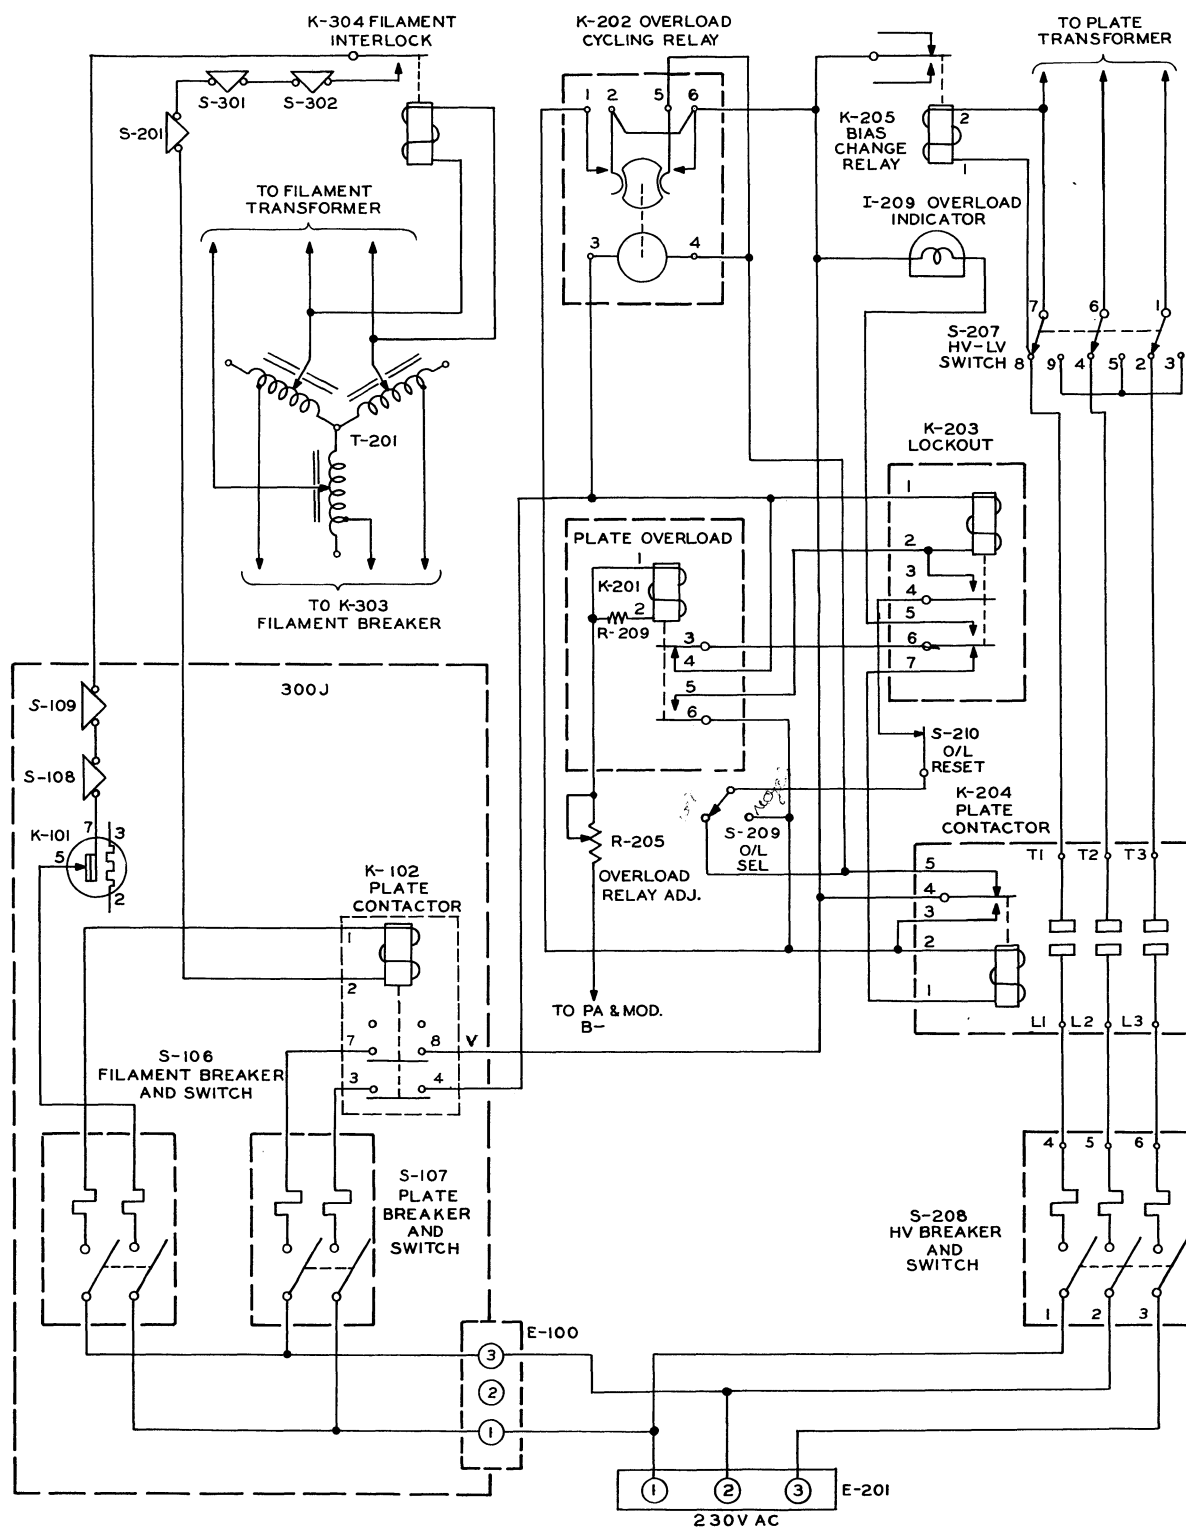
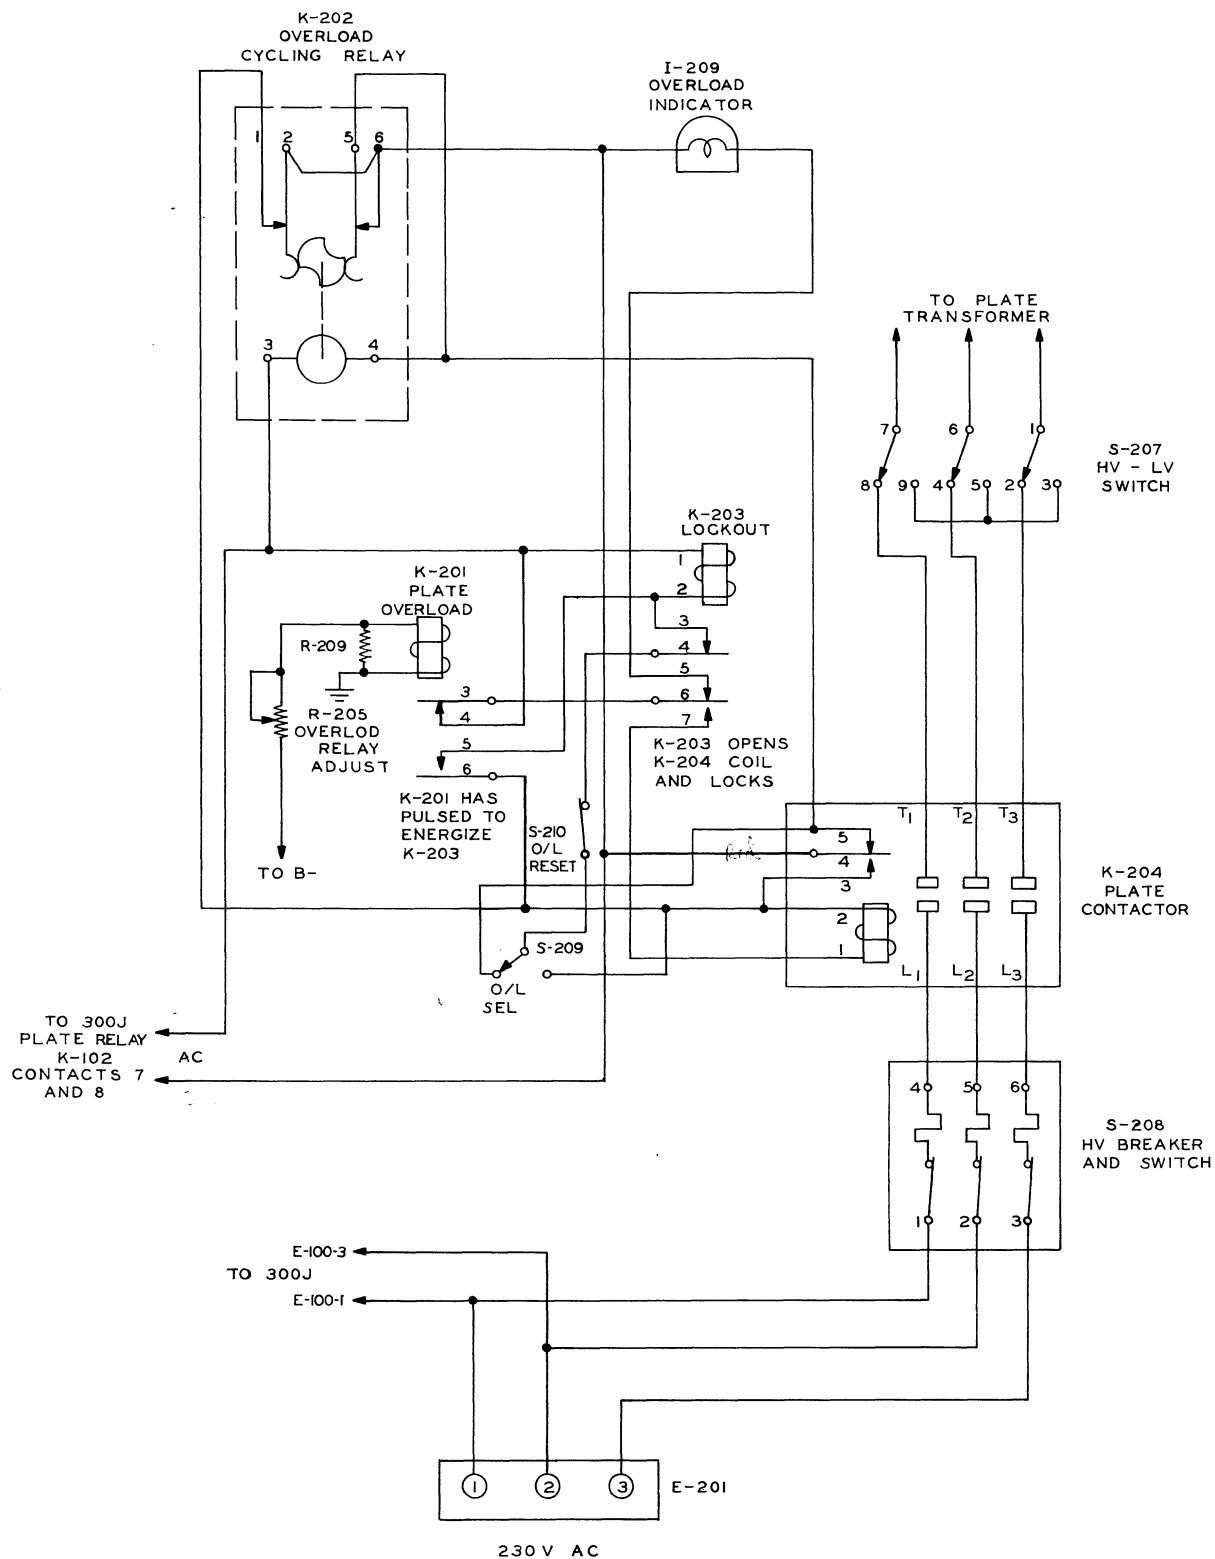

Figure 4-4. PA Plate Control Circuits -Normal.
Figure 4-5. PA Plate Control Circuit,
4.5.1. LOCK OUT CYCLE. Assume that the transmitter is turned on and operating normally. Set OVERLOAD SELECTOR switch S-209 to the position shown in figure 4-4 for LOCK OUT operation. An overload in the HV plate circuit sufficient to operate plate overload relay K-201 will open the plate contactor K-204 coil circuit at contacts 3 and 4 of K-201. The plate contactor K-204 will turn off the HV plate supply but contacts 4 and 5 of K-204 will close and start the motor of overload recycling relay K-202. (See figure 4-5) K-202 will repeat the turning on cycle described above in paragraph 4.4.1. to again close plate power contactor K-204. If the overload still persists, plate overload relay K-201 will again pulse and open the coil circuit of K-204 at contacts 3 and 4 of K-201. Also, contacts 5 and 6 of K-201 energize lock out relay K-203 through contacts 1 and 2 of K-202 which then breaks the coil circuit of plate contactor K-204 at contacts 6 and 7 of K-203. K-203 locks by virtue of contacts 3 and 4 of K-203 which connect the coil of K-203 through S-210, S-209 and contacts 4 and 5 of K-204 to terminal 8 of plate contactor K-102. The overload system can be reset by pressing S-210 which releases the lock-out relay K-203.
4.5.2. RECYCLING. Assume that the transmitter is turned on and operating normally and overload selector switch S-209 is in the position opposite to that shown in figure 4-4. An overload in the PA plate circuit sufficient to operate plate overload relay K-201 will open the coil circuit of plate contactor K-204 at contacts 3 and 4 of K-201 turning the plate supply to the PA and modulator off. The turn-on cycle will attempt to turn the plate supply on again but if the overload persists, K-201 will again open the coil of K-204 and contacts 4 and 5 of plate contactor K-204 will complete the motor circuit of K-202 which will lock in and run to close contacts 1 and 2 of K-202. Lock out relay K-203 will be energized by the circuit from K-203 terminal 2 through 5 and 6 of K-201, 1 and 2 of K-202 to terminal 8 of K-102. Lock out relay K-203 will then lock because of the circuit from terminal 2 of K-203 through K-203 contacts 3 and 4, S-210, S-209, contacts 1 and 2 of K-202 to terminal 8 of K-102. The lock out relay will prevent operation of plate contactor K-204 until the overload cycling relay K-202 makes a complete cycle and opens the lock out relay coil at contacts 1 and 2 of K-202. The motor of K-202 continues to turn because of contacts 4 and 5 of K-204 and the turn-on cycle (paragraph 4.4.1.) tries to turn the PA plate voltage on again. If the overload persists the above cycle will repeat and keep repeating until the overload is cleared or the transmitter is manually turned off.